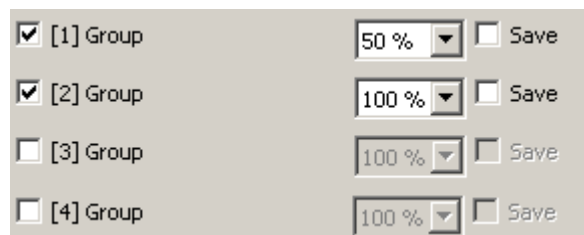

Figure 51: Example of a group assignment to a scene
Groups and single devices can be assigned to a scene without restrictions. Each group and each single device can be assigned independently by activating the checkbox in front of the group or single device name in the scene configuration (Figure 51). Groups and single devices, whose checkboxes are not activated, are not assigned to the scene. Any non-created groups or single devices of the DALI Gateway are greyed out and thus cannot be edited.
- In the parameter node "Scenes -> [x] Scene name", specify the necessary scene brightness value for each DALI group assigned to the scene and each assigned single device (Figure 51).
- In the parameter node "Scenes -> [x] Scene name" activate the "Save" checkbox for the DALI groups and single devices, which are to react to the memory function (Figure 51).